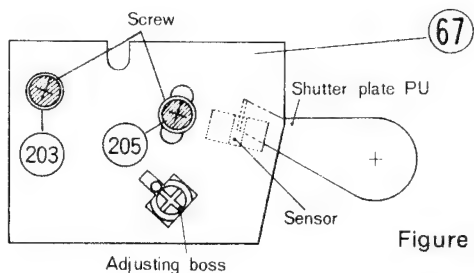

Figure 24
4. Slightly loosen the two Screws, (203) and (205), which fasten the Phono PWB Assy (67). (Fig. 24).
5. Turn the adjusting boss counterclockwise with the screw-driver (Fig. 24).
4. フォノPWB assy (67) をとめている2本のビス(203)・(205)をゆるめる。(図24)
4. Slightly loosen the two Screws, (203) and (205), which fasten the Phono PWB Assy (Fig. 24).